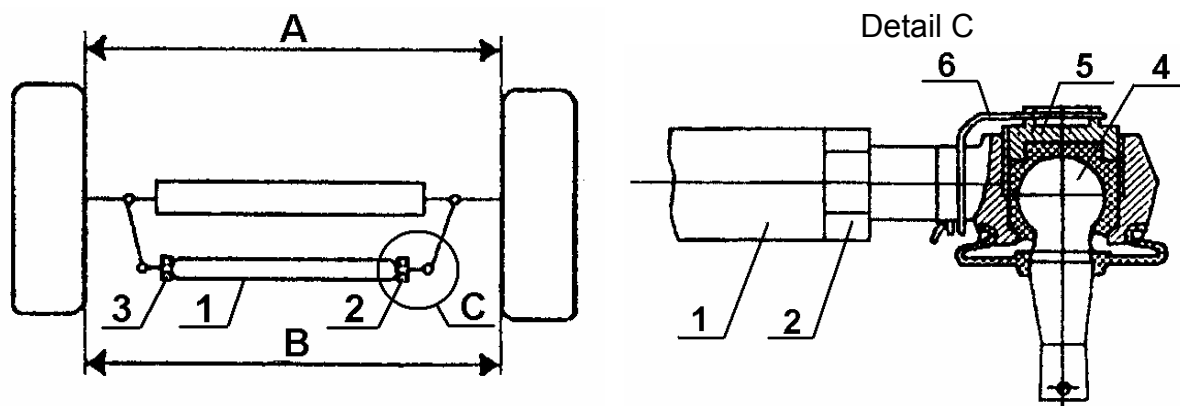

Fig. F-77 Adjustment of front wheels toe-in
After each replacement of front wheels and every 250 mth check and readjust if necessary the toe-in of front wheels. The toe-in is measured at wheel edges (rims), at the height of the front wheel hub and behind the front axle (the difference between dimensions B and A - Fig. F-77. should be within the range 0-5 mm).
- in articulated joints of the steering system by screwing in the stone 5 (Fig. F-77) of the joint; first remove the securing wire 6 (Fig. F-77)
- if the toe-in is incorrect adjust it with the rod 1 (Fig. F-77):
- unscrew the nuts 2 i 3 (loosen) (Fig. F-77) and by turning the rod 1 change the toe-in so that the difference between B and A lies within the range 0-5 mm
- tighten the counter-nuts 2 i 3 (Fig. F-77)